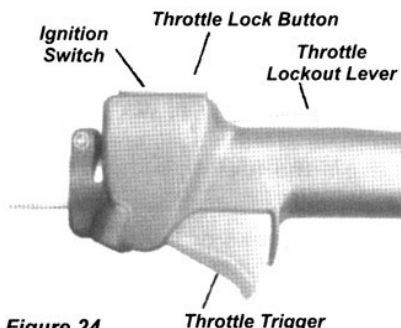

Figure 24
1. Set the throttle trigger to "fast idle" as follows (Figure 24):